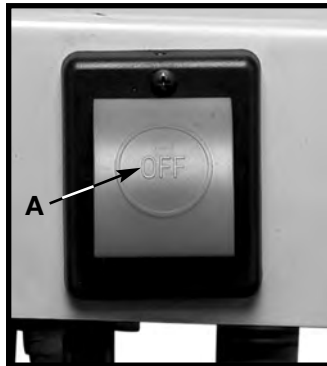
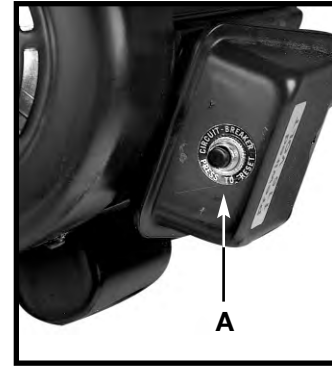

Fig. 16
Fig. 18
The on-off switch (A) Fig. 16 is located on the sander base. To turn the sander "ON", move the switch to the up position. To turn the sander "OFF", move the switch to the down position.
The motor supplied with your sander is equipped with a reset overload relay button (A) Fig. 18. If the motor shuts off or fails to start because of overloading (sanding too heavy, using a worn sanding belt or disc, using the sander beyond its capacity), or low voltage, turn the switch (A) Fig. 16 to the “OFF” position. Let the motor cool three to five minutes and push the reset button (A) Fig. 18. Start the motor.